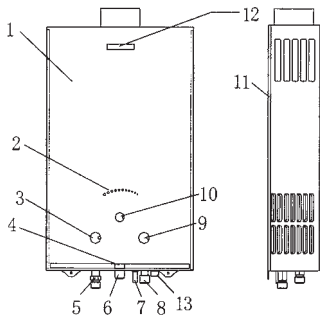

Fig.1
4. Installation of smoke discharging pipe (refer to Fig.1 and Fig.2).